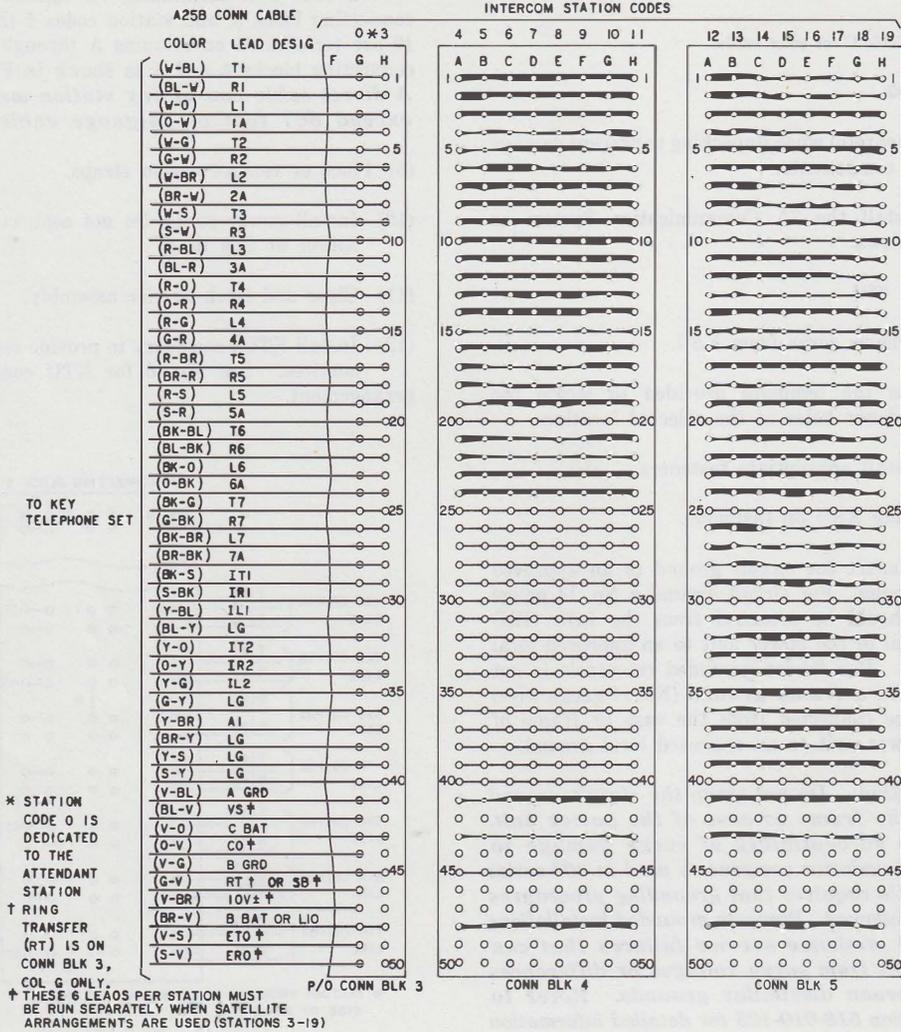
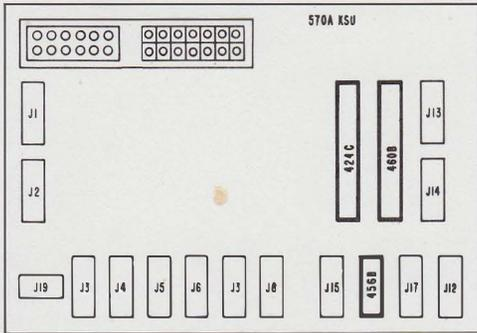

Fig. 26—Station Connections
Fig. 31—Location of 424C, 456B, and 460B KTUs, 2-Path Intercom
- (8) Terminate the station cables. Cut down the A25B connector cables on connecting blocks 3, 4, and 5 as shown in Fig. 26. Intercom station code 0 (attendant station) is terminated on column G of connecting block 3. Intercom
station code 3 is terminated on column H of connecting block 3, and station codes 4 through 19 are terminated on columns A through H on connecting blocks 4 and 5 as shown in Fig. 26. **A direct cable run to any station may not exceed 667 feet of 24-gauge cable.**
- One 25-pair cable to provide the 44 leads common to all stations (Fig. 26).
Provide six additional leads per satellite station (Fig. 26)
4.24 Intercom is factory-wired, requiring the 424C (Fig. 13), 456B (Fig. 18), and 460B (Fig. 20) KTUs furnished with the 570A KSU. See Fig. 31 for KTU locations in the KSU. The intercom code of a station is determined by the column on connecting blocks 3, 4, or 5 on which the station cable is terminated. See 3.05(8) and Fig. 26.